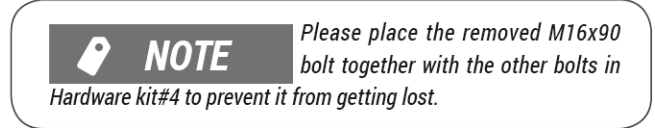

**Figure 3b**
2. Turn the support leg handle counterclockwise to slightly lower the height of the frame, ensuring the support tube firmly contacts the ground. (See **Figure 3b.**)